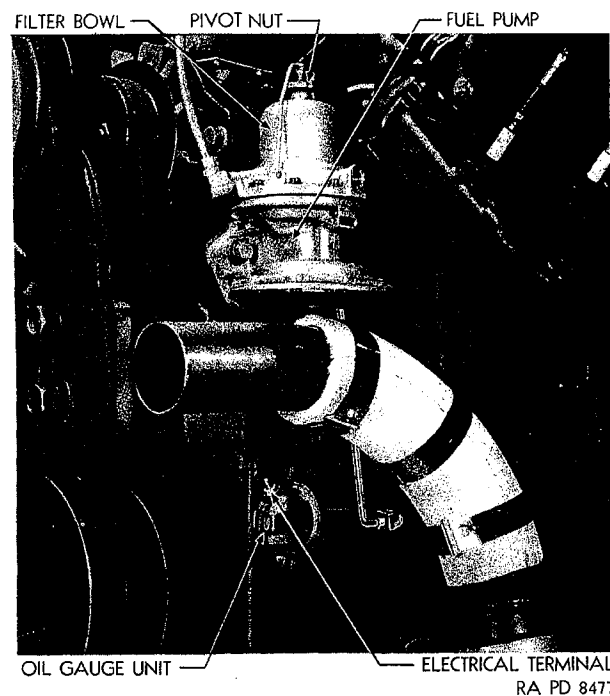

Figure 44—Fuel Pump & Oil Pressure Unit Mounting
(2) The fuel pumps are mounted on the left side of the timing case cover on each engine (Fig. 44). They are driven by arms actuated by removable eccentrics keyed to the front ends of the camshafts.
- (1) Loosen pivot nut on top of fuel pump bowl, swing nut and bracket off bowl and remove bowl (Fig. 44).
- (2) Slip laminated strainer assembly off top of fuel pump body.
- (3) Blow out strainer assembly with compressed air if available. Otherwise wash with cleaning solvent and shake thoroughly to jar off the sediment.
- (4) Wash fuel pump bowl in cleaning solvent and dry thoroughly.
- (5) Install strainer on top of fuel pump body.
- (6) Install a new fuel pump bowl gasket and install bowl.
- (7) Tighten bowl in position with pivot nut.